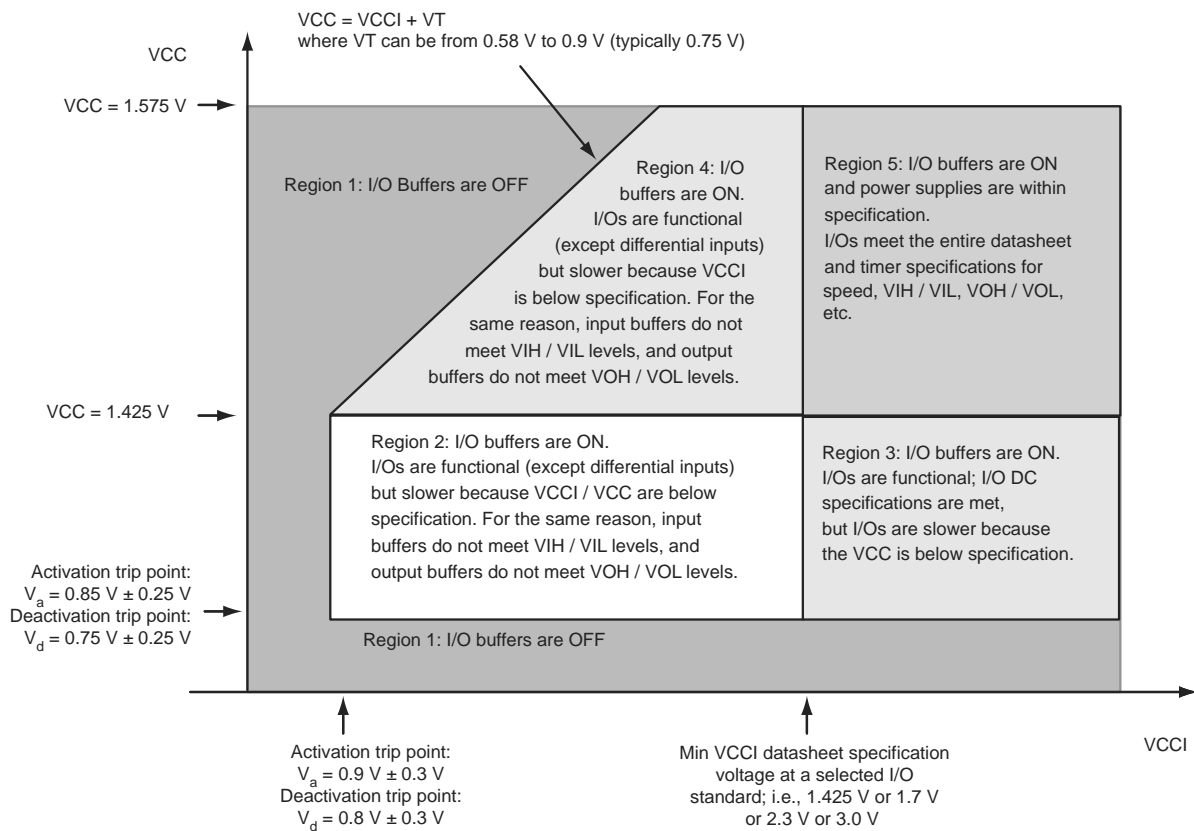

Figure 2-1 • V5 Devices – I/O State as a Function of VCCI and VCC Voltage Levels
Sophisticated power-up management circuitry is designed into every IGLOO device. These circuits ensure easy transition from the powered-off state to the powered-up state of the device. The many different supplies can power up in any sequence with minimized current spikes or surges. In addition, the I/O will be in a known state through the power-up sequence. The basic principle is shown in Figure 2-1 on page 2-4 and Figure 2-2 on page 2-5.
1. VCC and VCCI are above the minimum specified trip points (Figure 2-1 on page 2-4 and Figure 2-2 on page 2-5).
Microsemi recommends using monotonic power supplies or voltage regulators to ensure proper power-up behavior. Power ramp-up should be monotonic at least until VCC and VCCPLX exceed brownout activation levels (see Figure 2-1 and Figure 2-2 on page 2-5 for more details).